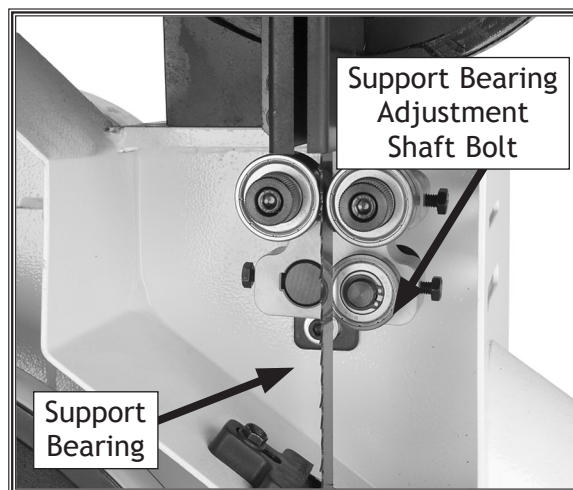

Figure 35. Lower support bearing controls.
3. Familiarize yourself with the lower support bearing controls shown in **Figure 35**.